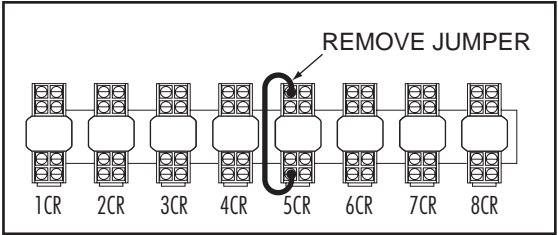

Fig. 8 -
2. Refer to Fig. 8 below. Locate the relay marked 5CR and remove the jumper wire connected to the relay socket.